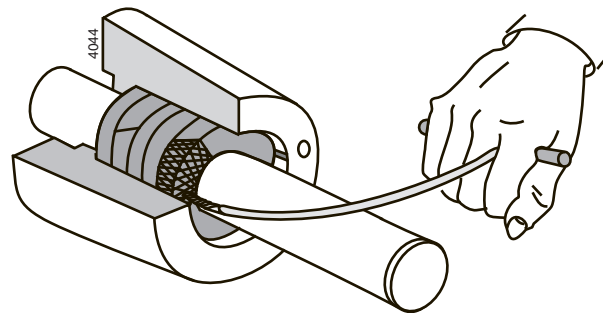

Figure 3: Removing stuffing box packing rings.
- 3 Remove the packing rings from the stuffing box. Use the special packing puller for this, see figure 3.